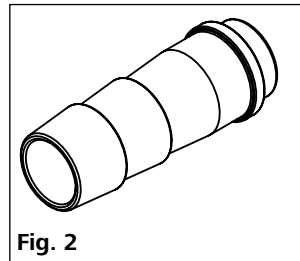

Fig. 2
- Hose olive DN 8 (2 pieces) see Fig. 2
- Hose olive DN 12 (2 pieces) see Fig. 2